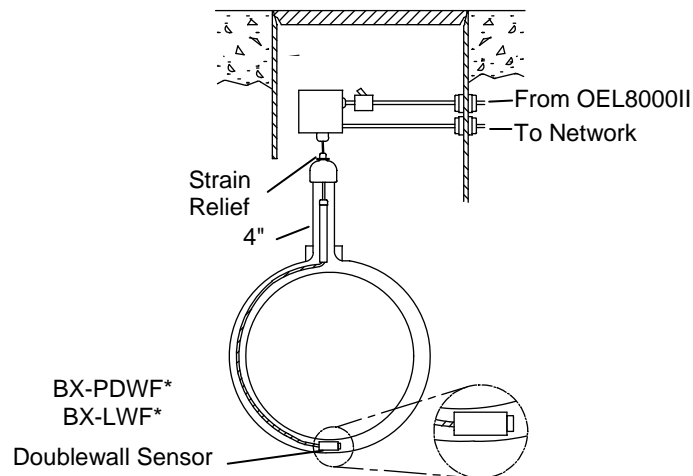

Fig. 2-6: BX-PDWF Installation
1. Snake the sensor into the tank's interstitial space (see Figure 2-6). As you push it, the sensor will move around the outside of the inner tank.